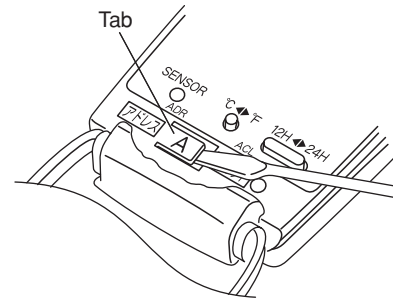
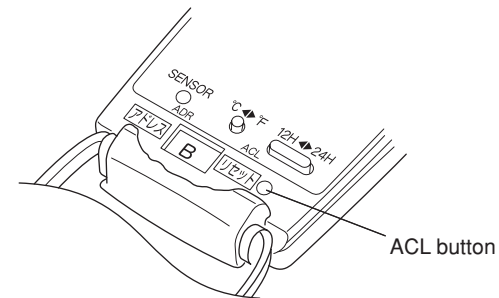
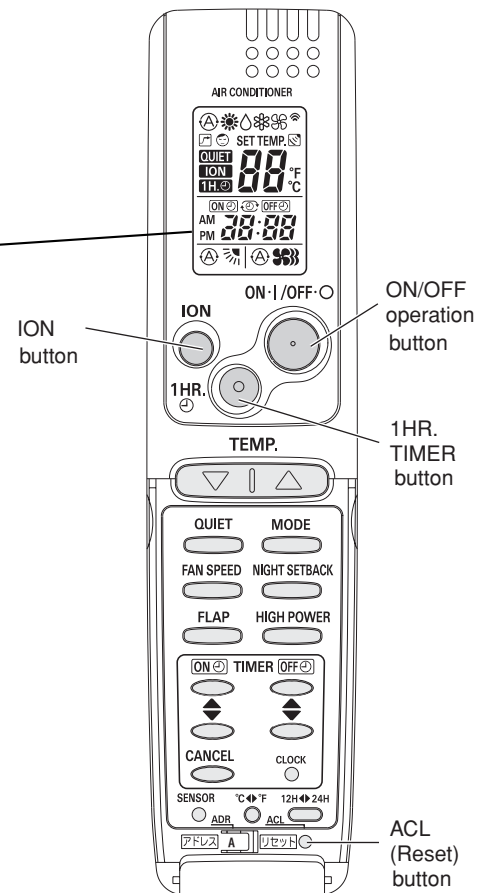

Fig. 62
Fig. 63
Fig. 64
- (1) Switch on the power source.
- (2) Break the address-setting tab marked "A" on the second remote controller to change the address (Fig. 62). When the tab is removed, the address is automatically set to B (Fig. 63).
- (3) Press and hold the remote controller ION button and 1 HR TIMER button. At the same time, press the ACL(reset) button. Use a thin object such as the tip of a pen to press the ACL button. When this has been done, "oP-1" (test run) appears, blinking, in the remote controller clock display area.
- (4) Each time the 1 HR TIMER button is pressed, the display changes as shown below. Press this button 2 times to change the display to "oP-7" (address setting).
- (5) "oP-7" has now been selected for address setting.
- (6) Press the ON/OFF operation button on the remote controller. (Fig. 64) Check that the "beep" signal-received sound is heard from the second indoor unit (approximately 5 times). The sound you hear is the signal that the remote controller address has been changed.
- (7) Finally press the remote controller ACL (reset) button to cancel the blinking "oP-7" display. (Fig. 64)